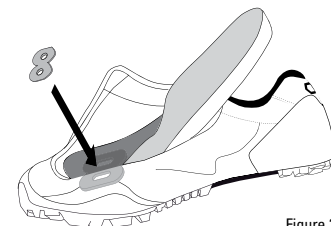

Figure 2
2. If necessary, remove the insole of the shoe and install the cleat washer from the inside of the shoe (fig. 2).